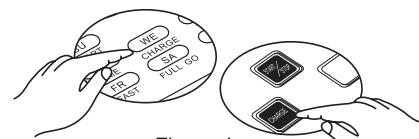

Figure 4
5. When the machine is searching for the Docking Station, if you press the CHARGE key on the machine's panel or the 'Power' key and CHARGE key on the Remote Control, the machine will stop searching for the Docking Station. (See Figure 4)